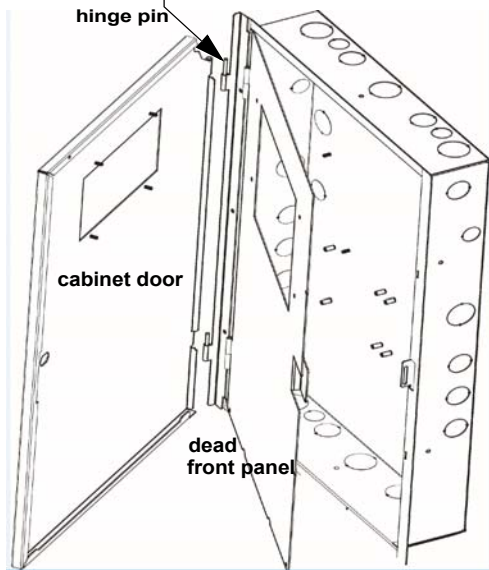

Figure 3 Cabinet Door and Dead Front Panel Removal
- To reinstall the doors, first align the top hinge and then align the lower hinge. See Figure 3.